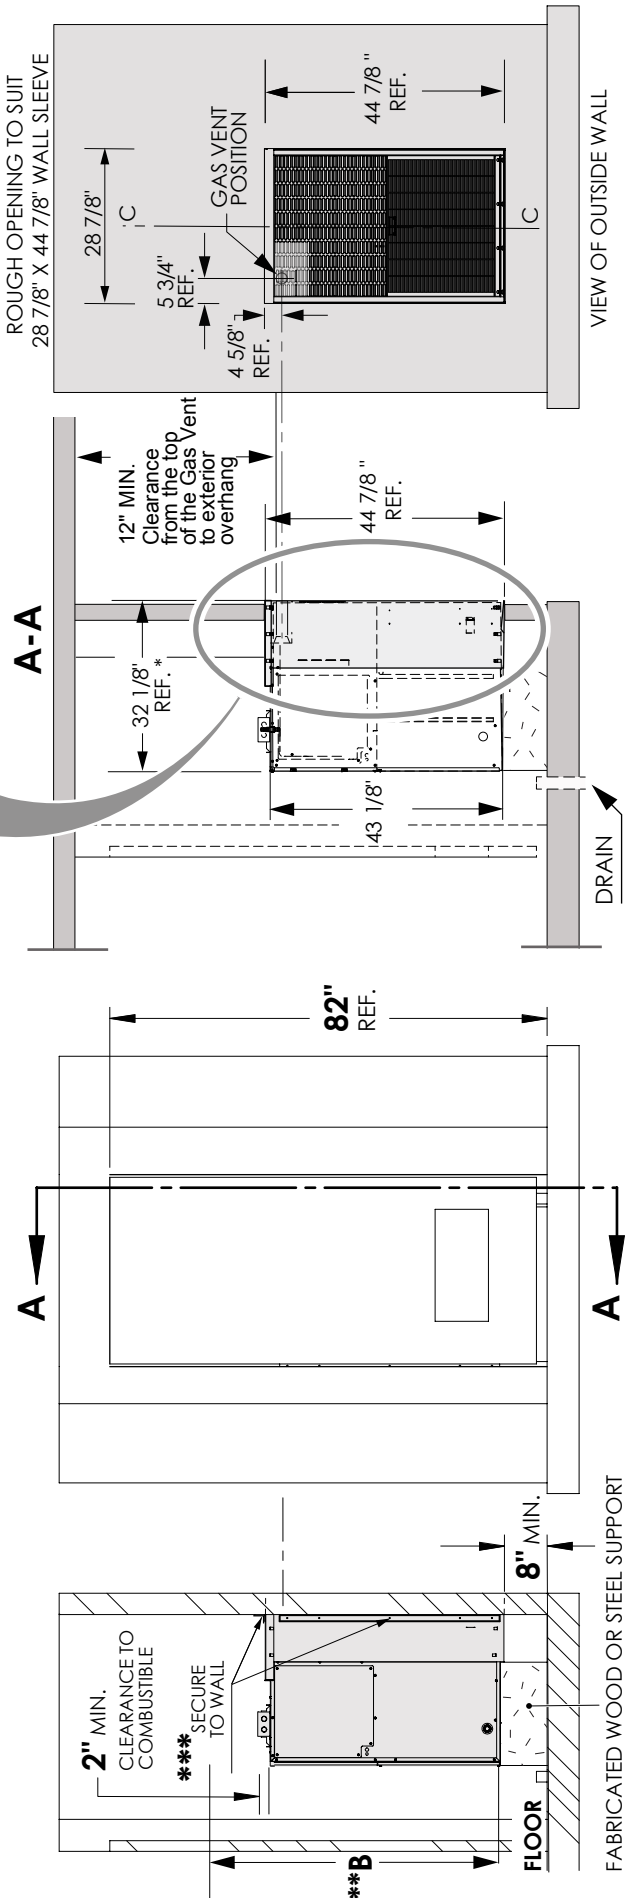

FIG. 4.2.2.B
- Do not install directly on carpeting, tile, or other combustible material other than wood flooring. The grille side of the unit should protrude minimum 1/2” but no more than 1” (maximum) from the face of the building and should not be obstructed by foreign objects. Refer to FIG. 4.2.2.
NOTE *** REFER TO FIGURE 4.2.2.A, PAGE 14.